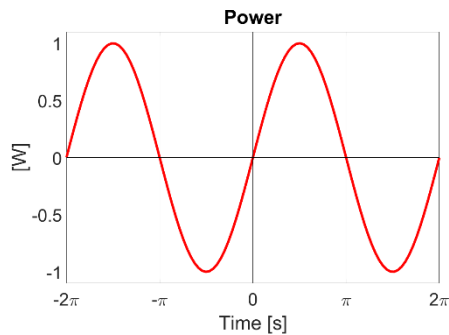

Figure 4: Example of a plot. In this case the sine curve is plotted in red, and the line weight is thicker than the grid. Units are included
- The size of the figure can be rather small. The example in Figure 4 is 2.5 inches wide. It is still easy to read even at this size.